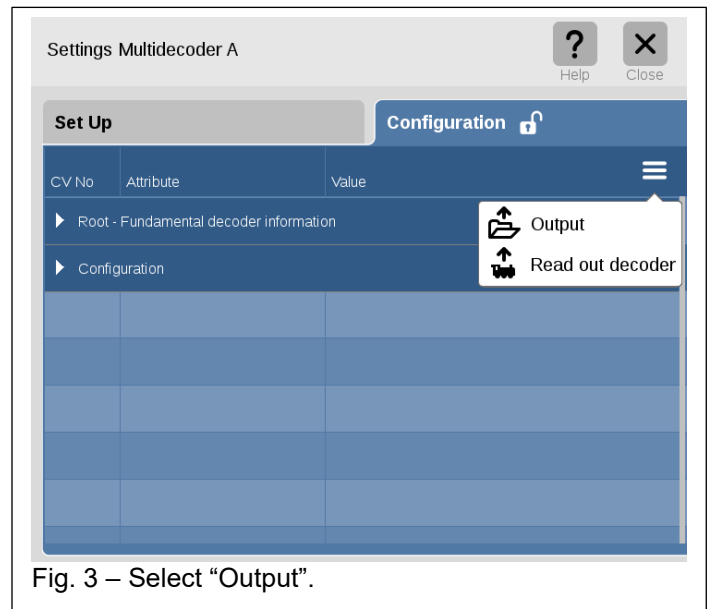
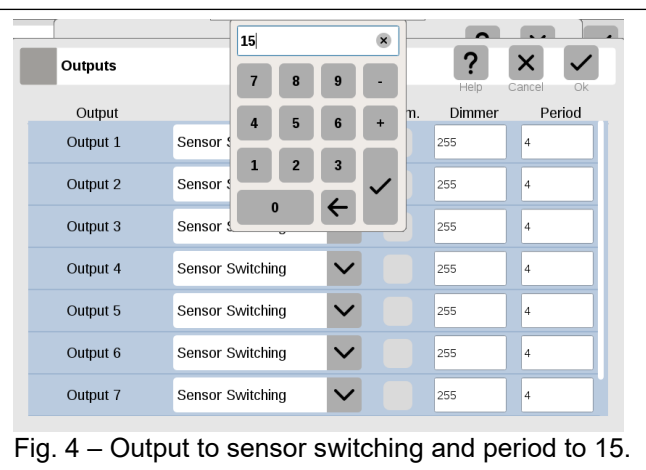

Fig. 3 – Select “Output”.
Fig. 4 – Output to sensor switching and period to 15.
Now I select the menu icon in the upper right of the configuration tab and select “Output” (Fig. 3), and verify the port is configured to “Sensor Switching” and change the “Period” to 15 (Fig. 4).
In Fig. 3, I show you the update files that are available for download using the link above. The general content of the page will list the current version of the CS3 software. In this case it is 2.5.2 (6). However, I did find it confusing that there is also a download link for version 2.6.0 and 2.4.1.